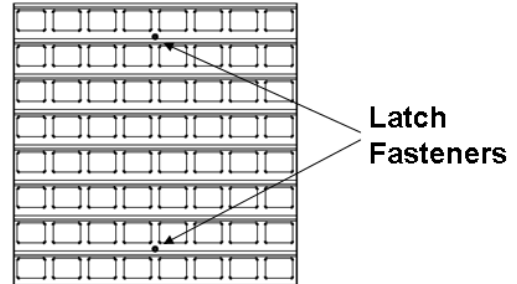

Figure 29: Module, Front View
1. Loosen the latch fasteners on the front face the LED module using a 1/8" hex wrench. One latch fastener is centered below the top row of pixels and one is centered above the bottom row (Figure 29).